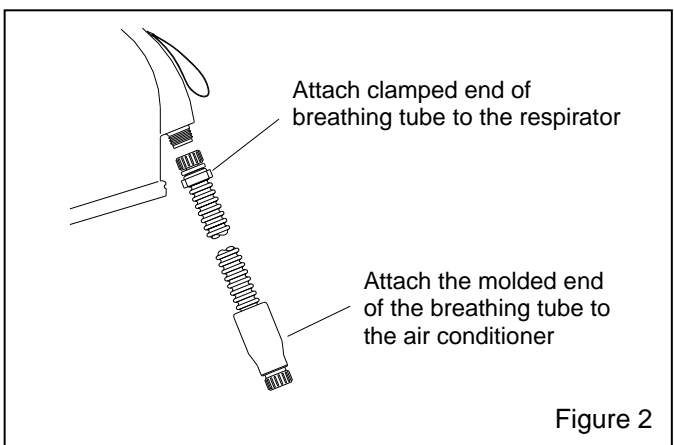

Figure 2
3.1.1 The breathing tube has a clamped-on end and a molded-on end. Attach the molded-on swivel connector to the air conditioner's outlet as shown in Figure 2.
3.1.2 Attach the clamped-on end to the threaded air inlet fitting at the back of the helmet as shown in Figure 2. Do not over-tighten; hand-tight is sufficient.